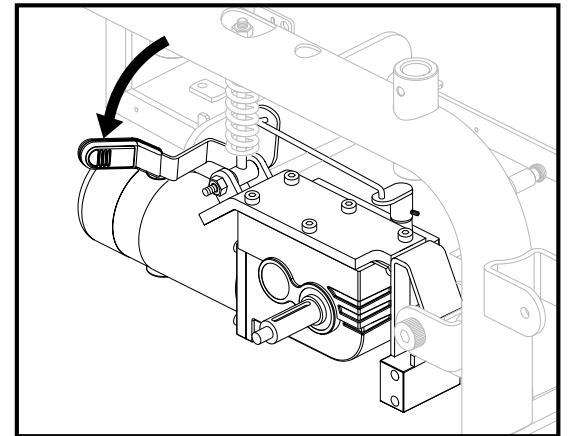

Figure 6a. Drive Mode (Drive Engaged)
2. Push down the manual freewheel lever on each motor down for drive mode (drive engaged). See figure 6a.